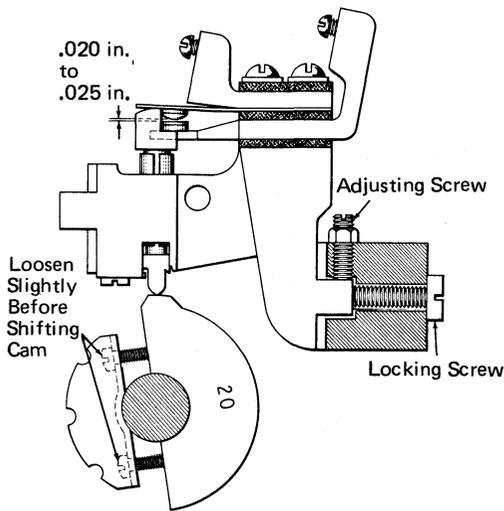

Figure 3-12. N/C Plunger Circuit Breaker—Adjustment 3
3. Locate the cam contact unit on the mounting bar at its extreme limit of travel away from the cam (Figure 3-12). With the plunger on the highest point of the cam lobe, advance the adjusting screw until the air gap at the contact points is a minimum of .020-inch when the plunger is raised to its limit of travel.